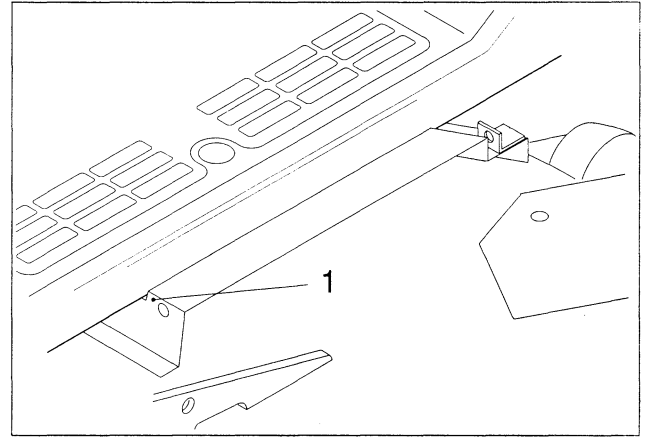

Figure 9
3. Raise the mower to its highest position to make sure the bottom of the rider's running board fits into the slot in the mower belt cover (Fig. 9). Tighten the belt-cover screws.